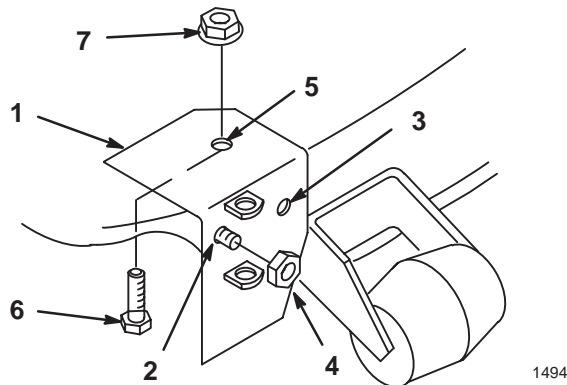

Figure 3
5. Select proper hole (42" outside, 48" inside) and slide pivot support over threaded stud welded to front of mower near discharge opening (Fig. 3).
6. Align pivot support parallel with front curved edge and tight against top of mower (Fig. 3). Clamp in this position.
7. Drill 11/32" diameter hole in top of mower using the pivot support as a guide. Secure pivot support to the mower with a (5/16" x 3/4") bolt, through from the underside of the mower, and a flange nut (Fig. 3). Thread jam nut (removed from discharge chute) snug onto stud. Do not overtighten jam nut.